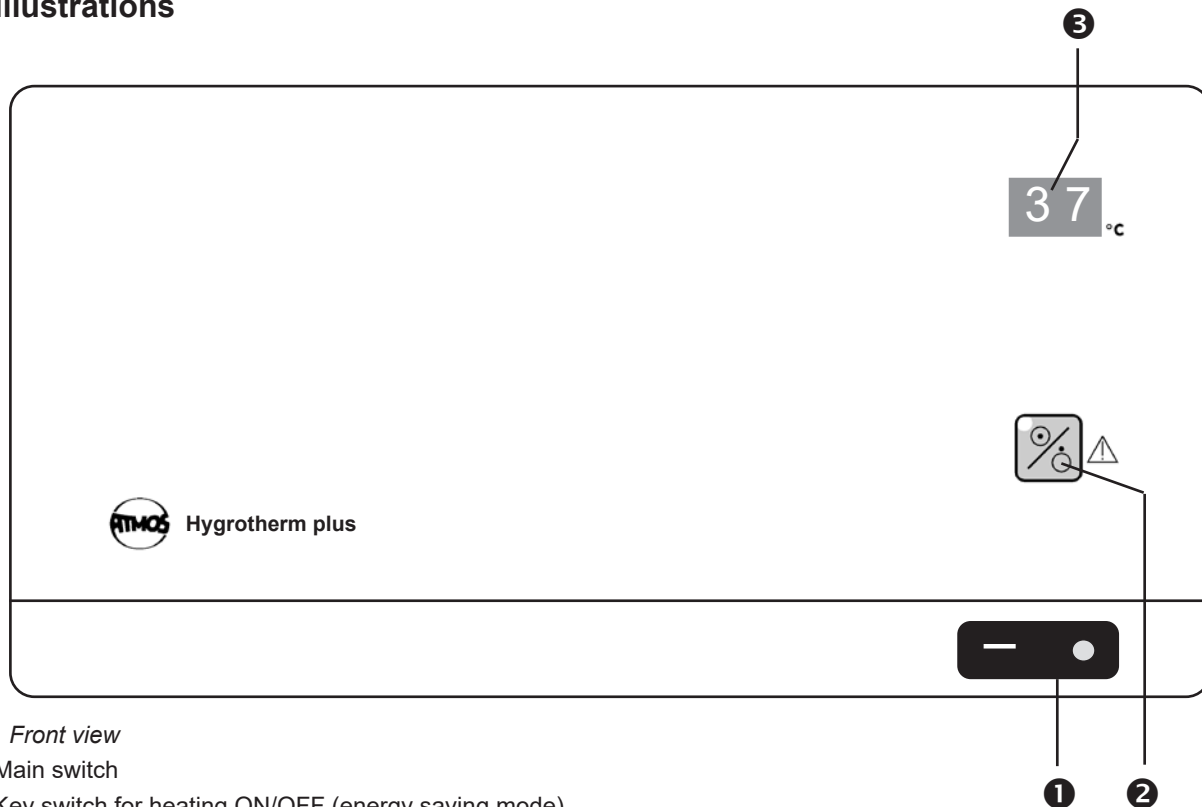

Fig. 1. Front view
- Operating the main switch (❶, fig. 1) automatically activates the thermal process for reducing bacterial count (see section 4.2.1) .
- Switch on the unit (①, fig. 1).